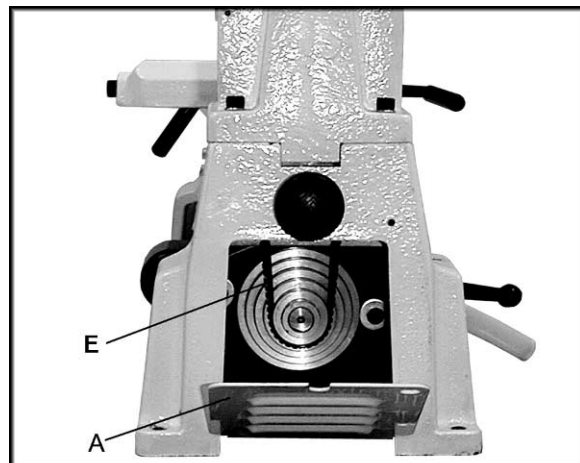
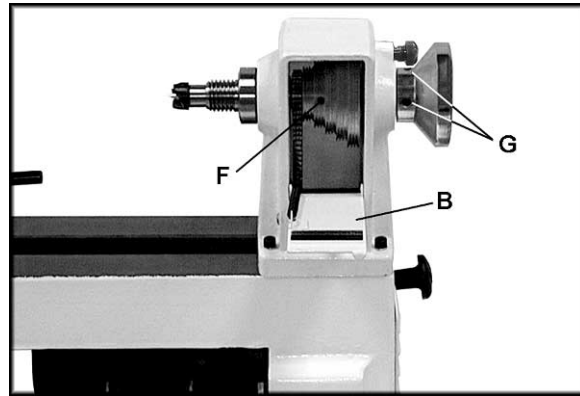

Figure 9
Figure 10
2. Open the access doors at the left side of the base (A, Figure 9) and at the back side of the headstock (B, Figure 10).
4. Move the belt (E, Figure 9) to the desired pulley groove according to the speed chart found on the inside of the headstock access door. Be sure the belt is aligned with spindle pulley and motor pulley.
4. Loosen the set screw (F, Figure 10) on the spindle, or upper, pulley.
5. Loosen the two set screws in handwheel (G, Figure 10). Unscrew the handwheel while holding the spindle stationary.
9. Thread the handwheel onto the spindle leaving a little space between the handwheel and headstock. Tighten set screws (G, Figure 10).
10. Center the spindle pulley and tighten set screw (F, Figure 10).